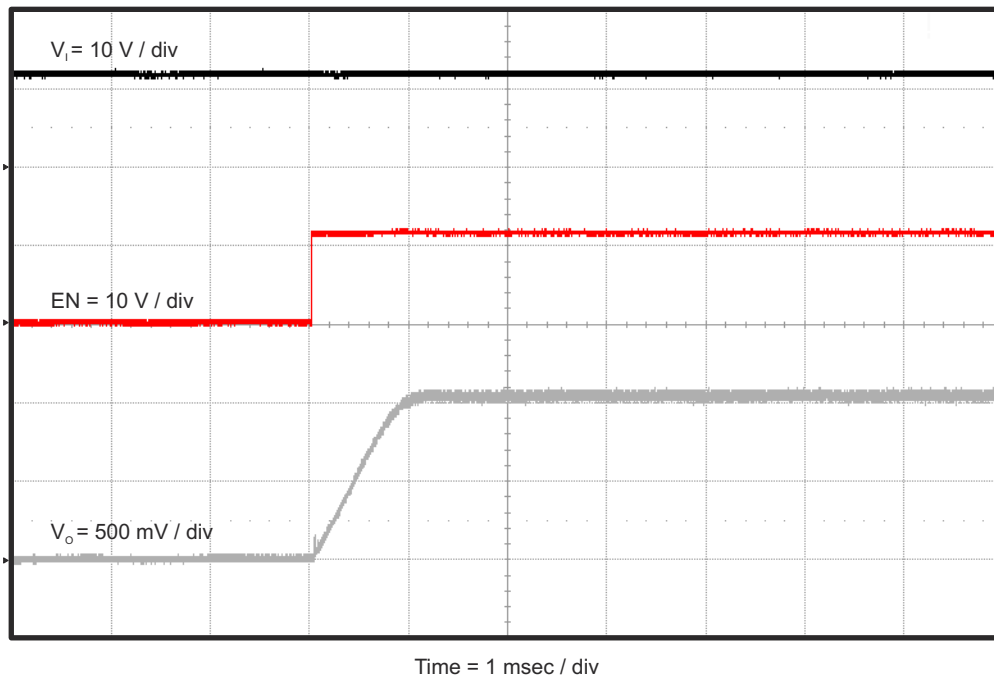

Figure 4-11. TPS563209EVM-652 Start-Up Relative to EN
The TPS563209EVM-652 start-up waveform relative to enable (EN) is shown in Figure 4-11. Load = 1 Ω resistive.